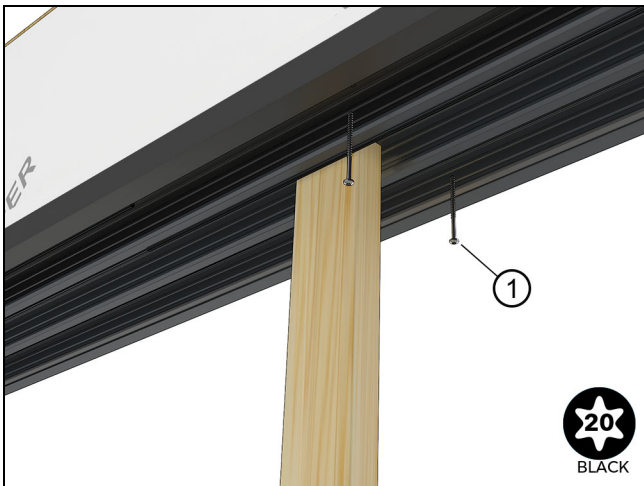

Figure 69
6. Starting at the center, shim and fasten the head jamb with #10 x 3" (76) screws so that a story pole stays in light contact with the sill and head jamb. Repeat this process the entire width. See Figure 68 and Figure 69.